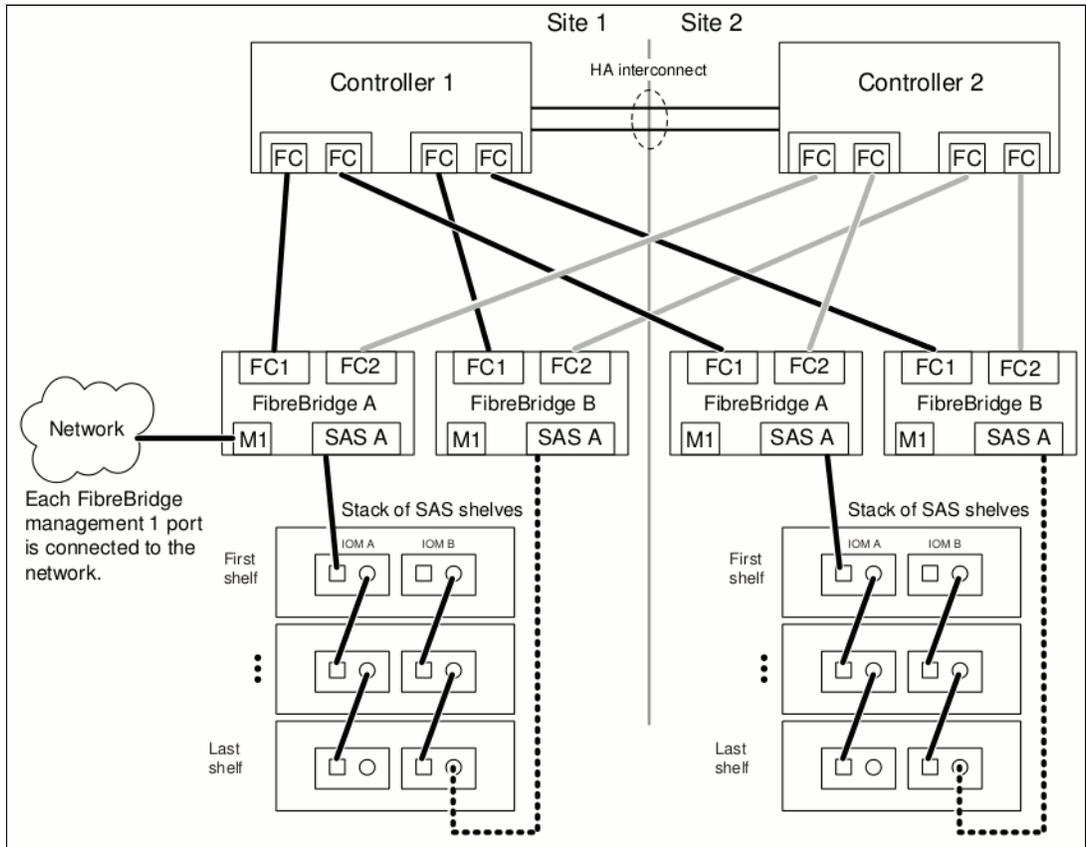

Figure 9-6 Stretch MetroCluster using FibreBridge and SAS copper cables
- ▶ Figure 9-6 on page 143 shows a stretch MetroCluster system with FibreBridge 6500N bridges and SAS copper cables which can be used as a reference when planning their replacement.